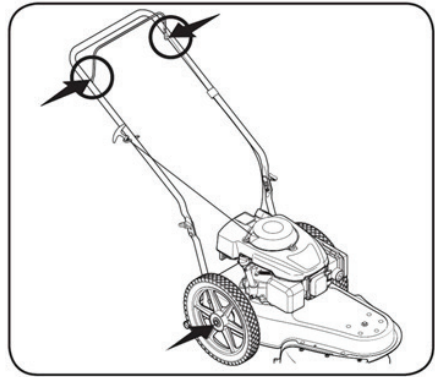

Figure 4-1
1. Lubricate pivot points on the control lever at least once a season with light oil. This control must operate freely in both directions. See Figure 4-1.
2. Lubricate the wheels at least once a season with light oil (or motor oil). If wheels are removed for any reason, lubricate surface of the axle bolt and inner surface of the wheel with light oil. See Figure 4-1.